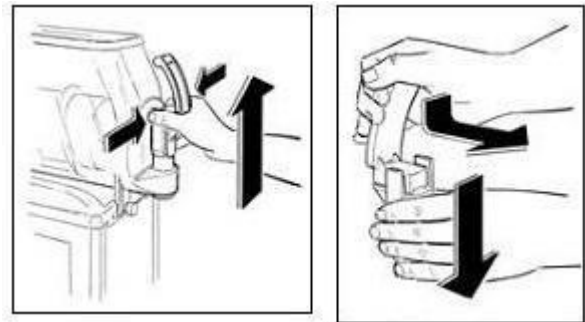

Fig. 15
- Simultaneously press the two securing tabs and lift the tap to extract it from its seat (see fig.15).
- Disassemble the tap by keeping the body pressed down and slipping the lever from its seat (fig.15).